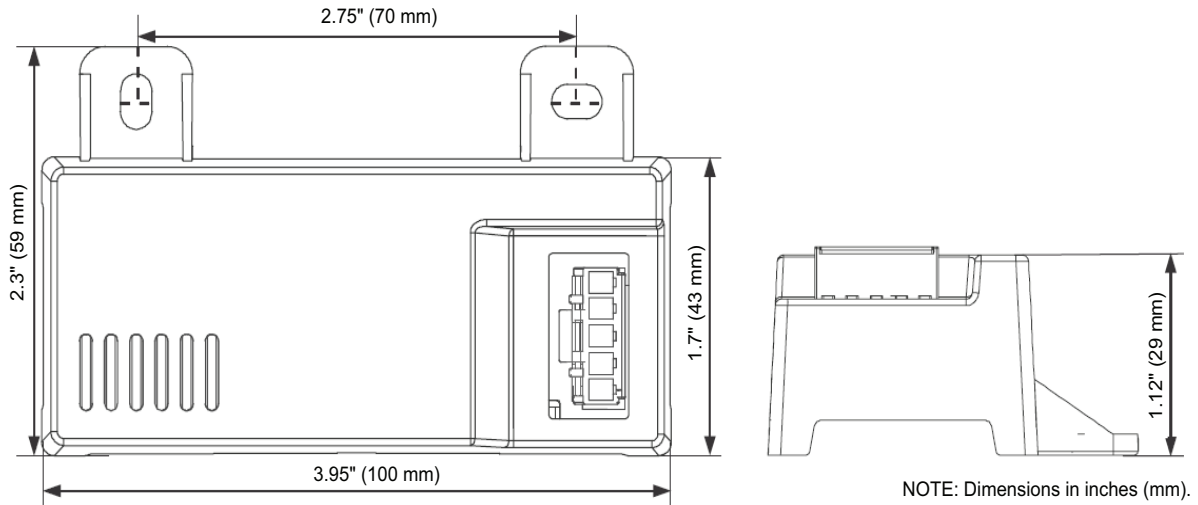
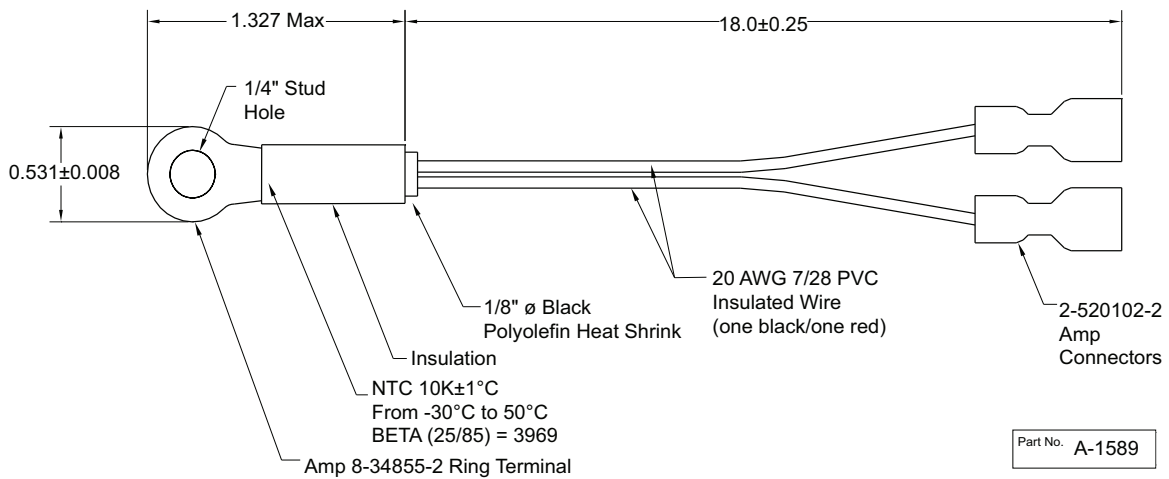
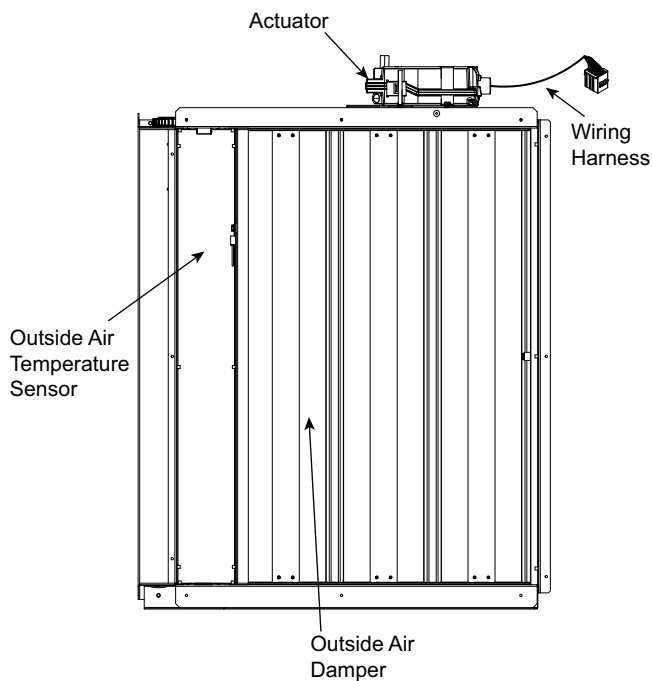

Fig. 69 – HH57LW001 Dimensional, Connection and Switching Information
Fig. 70 – HH79NZ039 Dry Bulb and Mixed Air Sensor Wiring
Fig. 71 – EconomizerONE Component Locations (CRECOMZR108A00 Shown)
When using the HH57LW001 enthalpy sensor (see Fig. 69) for outside air changeover, the existing HH79NZ039 dry bulb sensor (see Fig. 70) must be removed. The enthalpy sensor will be mounted in the same location as the dry bulb sensor (see Fig. 71). When the enthalpy sensor's OA (Outside Air) temperature, enthalpy, and dew point are below their respective setpoints, the outside air can be used for free cooling. When any of these are above the setpoint, free cooling will not be available. Enthalpy setpoints are configurable and create an enthalpy boundary according to the user's input. For additional details, see Fig. 72-73 and Table 33.
The optional enthalpy control sensor (P/N: HH57LW001) communicates with the POL224 economizer controller using the 5-wire harness, 48TC005213. The HH57LW001 sensor can be used as a single outside air enthalpy, a differential return enthalpy, or a differential return temperature sensor. Refer to the base unit control wiring diagrams found earlier in this book to wire the HH57LW001 enthalpy sensor for each option. Use Fig. 69 and Table 35 on page 59 to locate the wiring terminals for each enthalpy control sensor.
Economizers are shipped standard with an HH79NZ039 outside air dry bulb sensor (see Fig. 70). System default setting (high temp limit) is 63°F (17°C) and has a range of 48°F to 80°F (9°C to 27°C). Sensor is factory installed on economizer.
If installing the optional HH57LW001 enthalpy sensor, the HH79NZ039 dry bulb outside air sensor must first be removed. Wire sensor to harness 48TC005213 and the (5) wires from the harness to the EconomizerONE harness in the return air chamber. Harness 48TC005213 has a 5-pin plug that connects directly to the HH57LW001 enthalpy sensor. Refer to the base unit control wiring diagrams earlier in this book for wiring connections. Refer to Fig. 69 and Table 35.